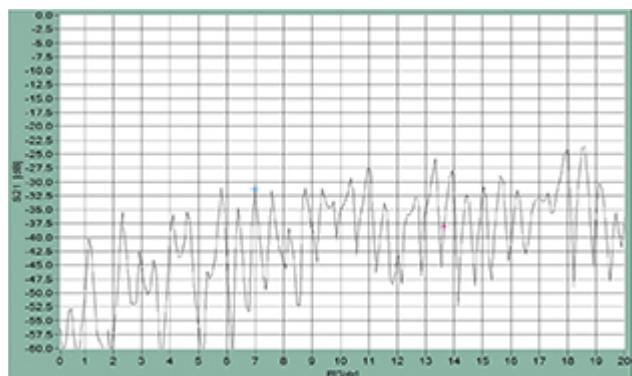

Figure 6: CMRR Measurement of the HL9403
*Figure 6* shows the common-mode rejection ratio of the HL9403 when used in combiner mode. The horizontal axis is frequency (5 MHz to 20 GHz), while the vertical is dB (0 to -60).